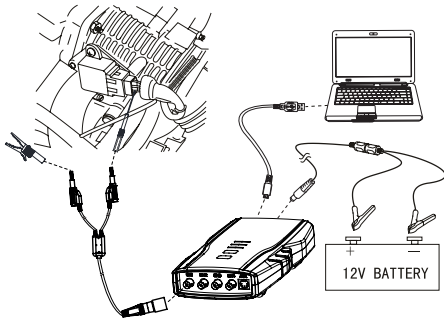

Fig. 17: Equipment connection
1. Connect equipment according to Fig.17, switch on power supply.